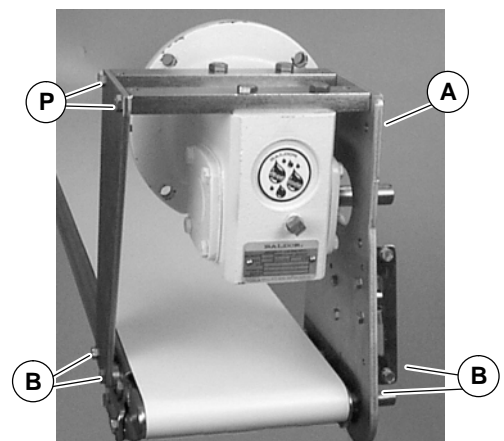

Figure 4
4a. For 102mm and wider conveyors, loosen (but do not remove) screws (P of Figure 4). Attach top mount assembly (A) to conveyor with screws (B). Tighten screws (B) and (P) to 10.4 Nm.